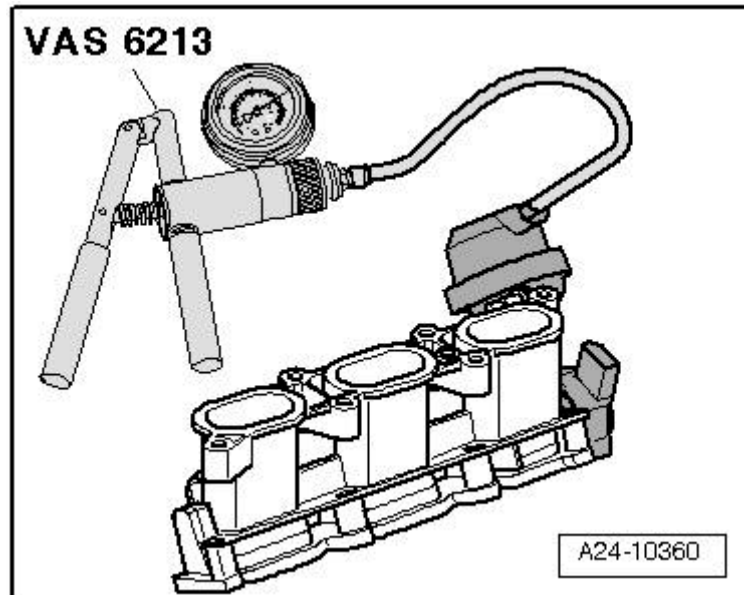

Figure 1. Vacuum pump VAS 6213
1. Ensure that the fault is not caused by a defective vacuum line by using the vacuum pump (Figure 1) to confirm there is no leak in the vacuum supply to the actuators.